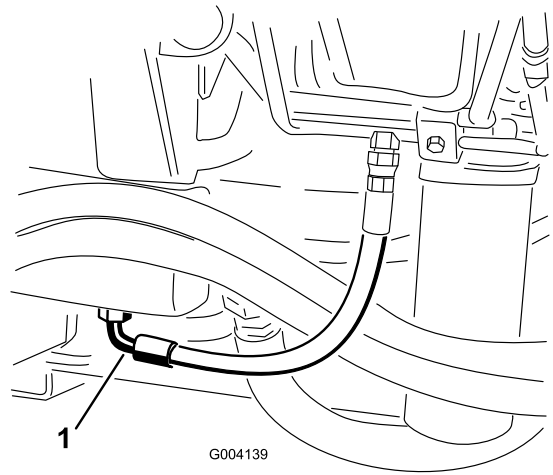

Figure 99
3. Place a large drain pan under the fitting secured to the bottom of the hydraulic-fluid reservoir (Figure 99).